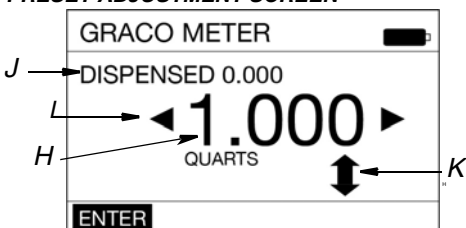

FIG. 31
2. If ACTIVATE (A) is not highlighted, use the LEFT or RIGHT ARROW button on the keypad to highlight ACTIVATE (Fig. 31); then press the center, ENTER button on the keypad to select it.
- **PRESET** - Allows for increasing, decreasing or entirely changing the amount of fluid for the PRESET selection. The screen shown in FIG. 31 displays. See Function Command (C)/PRESET, page 18 for instructions on changing the PRESET).
- **RESET** - Resets the Dispensed Fluid Counter (D) back to 0.000.